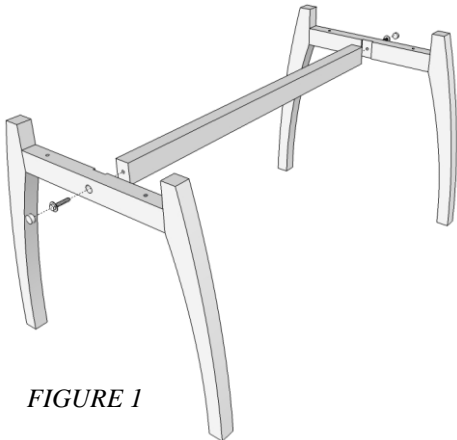

FIGURE 1
- 1) LOOSELY ATTACH THE STRETCHER TO BOTH LEG ASSEMBLIES USING THE HOLES IN EACH LEG WITH 2 - 2" LAG BOLTS. MAKE SURE THE NOTCH IN THE CENTER OF THE LEG ASSEMBLY IS FACING THE STRETCHER END. (FIGURE 1)**